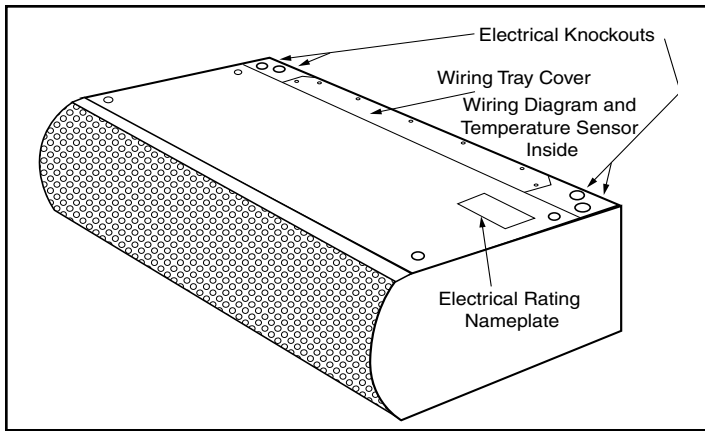

FIGURE 7 - Electrical Connections
that are comprised of modules, remove the wiring tray cover that is located closest to the electrical rating nameplate. Remove the required knockouts and attach the necessary electrical hardware. **Save the wiring diagram found inside of the wiring tray. See Figure 7.**
- D. The top of the air door is provided with two knockouts on each side allowing for a left or right hand power connection. Remove the wiring tray cover; on air doors that are comprised of modules, remove the wiring tray cover that is located closest to the electrical rating nameplate. Remove the required knockouts and attach the necessary electrical hardware. Save the wiring diagram found inside of the wiring tray. **See Figure 7.**
- A. Check the rating nameplate on the top of the air door for supply voltage and current requirements. **See Figure 7.** A separate line voltage supply with a suitable branch circuit protection device should be run directly from the main electrical panel to the air door. A disconnect switch for each branch circuit is a required part of this installation. **See Tables 2 & 3.**